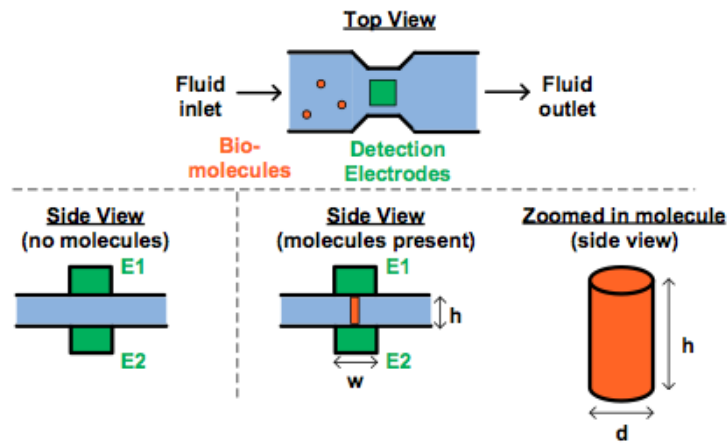

Figure 1: Bio-molecule detector.
As shown in Figure 1, the detector works by flowing a liquid that may or may not contain the biomolecules through a region in the device that has electrodes on the top and bottom of the liquid channel. The electrodes (E1/E2 in Figure 1) are chemically “functionalized” (using e.g. some appropriately designed antibodies), so that if the specific bio-molecule of interest is present in the fluid sample, one or more of the molecules will get physically trapped between the two electrodes (bottom right of Figure 1). After all of the fluid has been
- (a) Let's first assume that we want to detect the presence of a bio-molecule by measuring resistance. If no bio-molecule is present, what should be the resistance between E1/E2? As shown in Figure 1, if each bio-molecule is a cylinder with diameter  $d = 10\text{ nm}$ , height  $h = 100\text{ nm}$ , and has a resistivity  $\rho = 100\ \mu\Omega\text{ m}$ , what would be the resistance between E1 and E2 if only a single bio-molecule has been trapped? Note that you can assume that the trapped molecule is exactly vertically oriented when it is trapped – i.e., the top and bottom faces of the molecule are both aligned with surfaces of the electrodes.